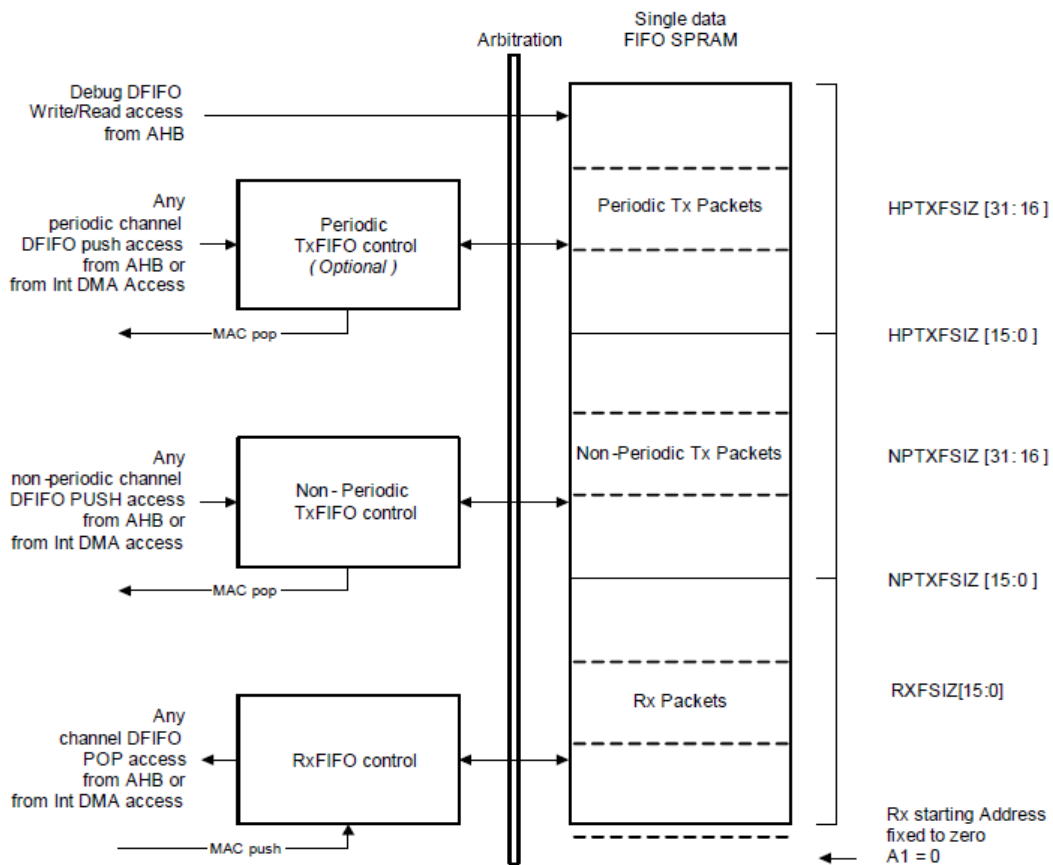

Fig. 27-8 USB OTG 2.0 Controller host mode FIFO address mapping
- Fig.27-8 shows FIFO mapping in Host mode.